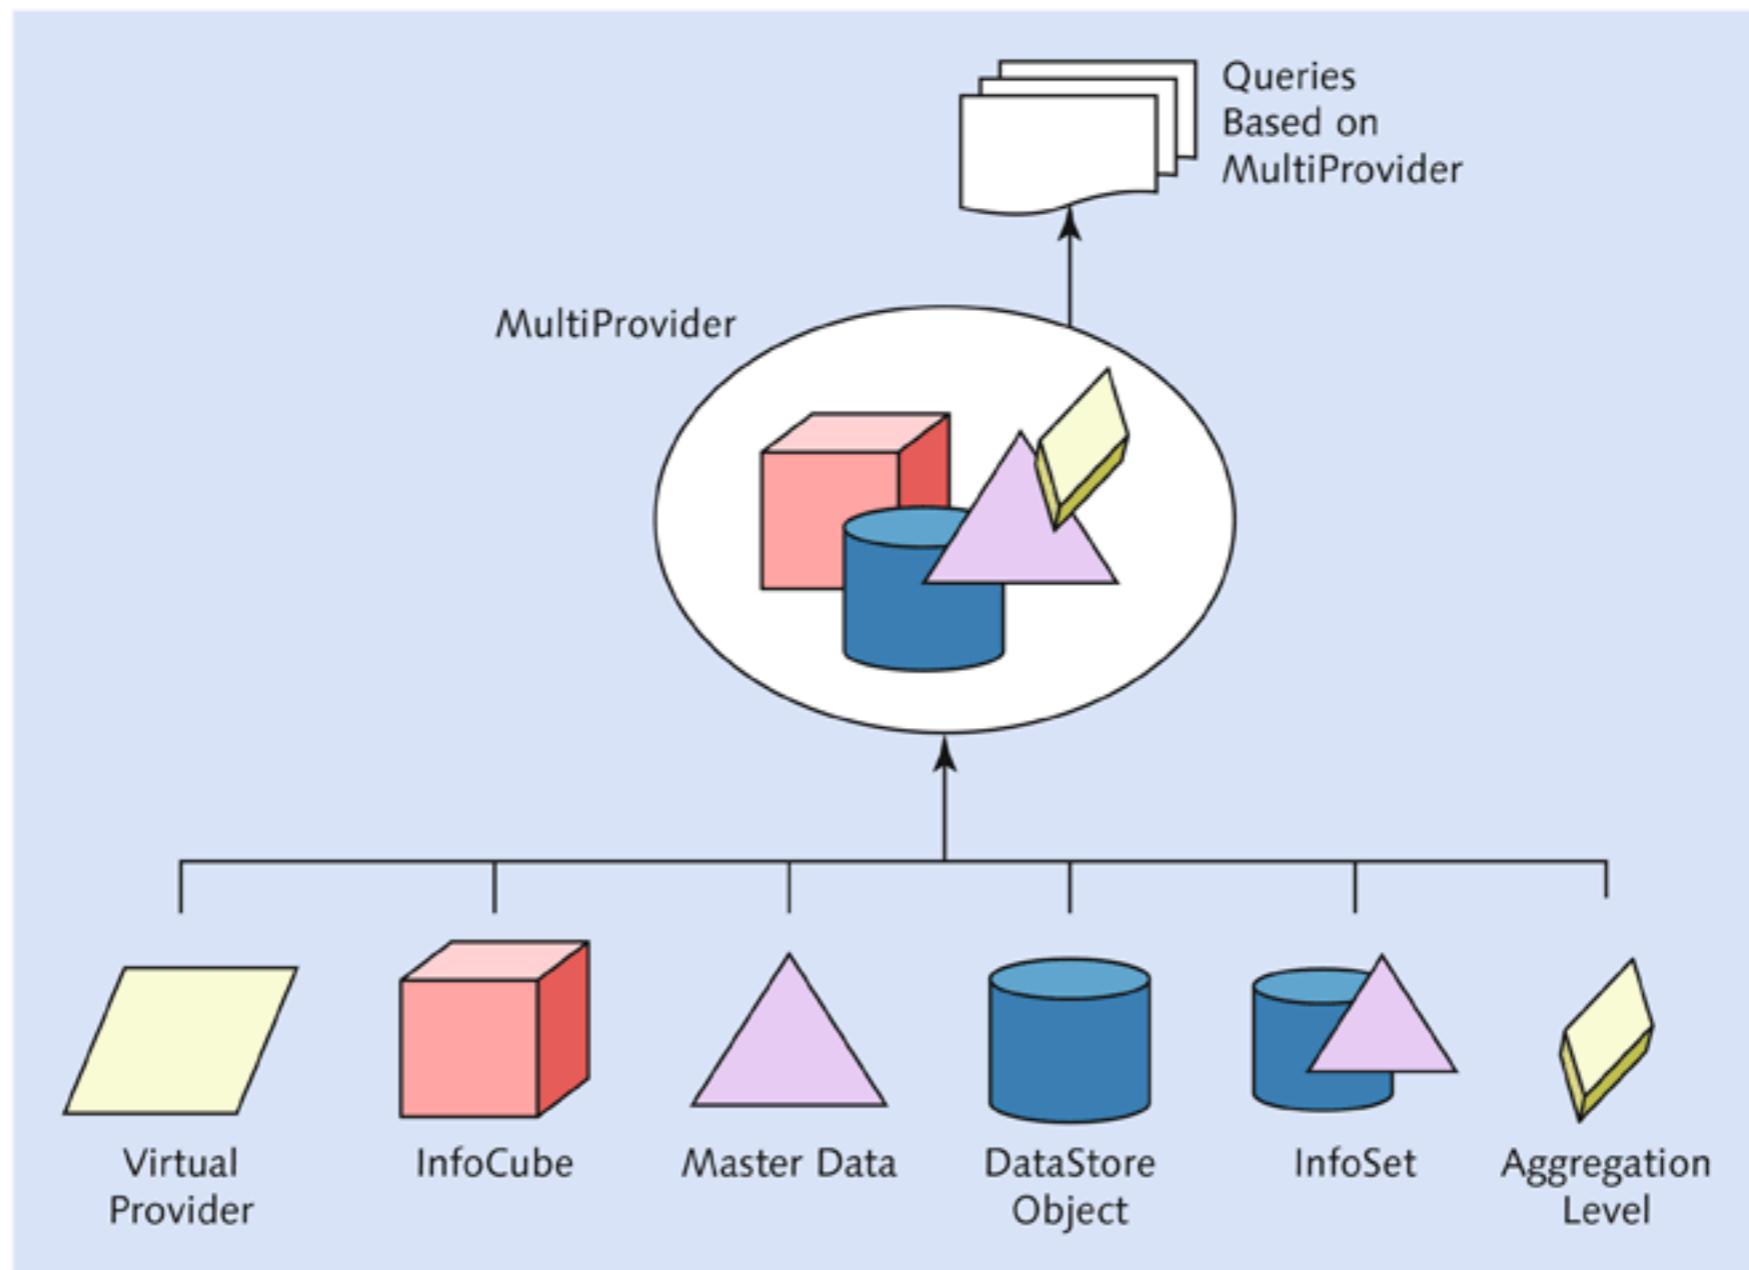
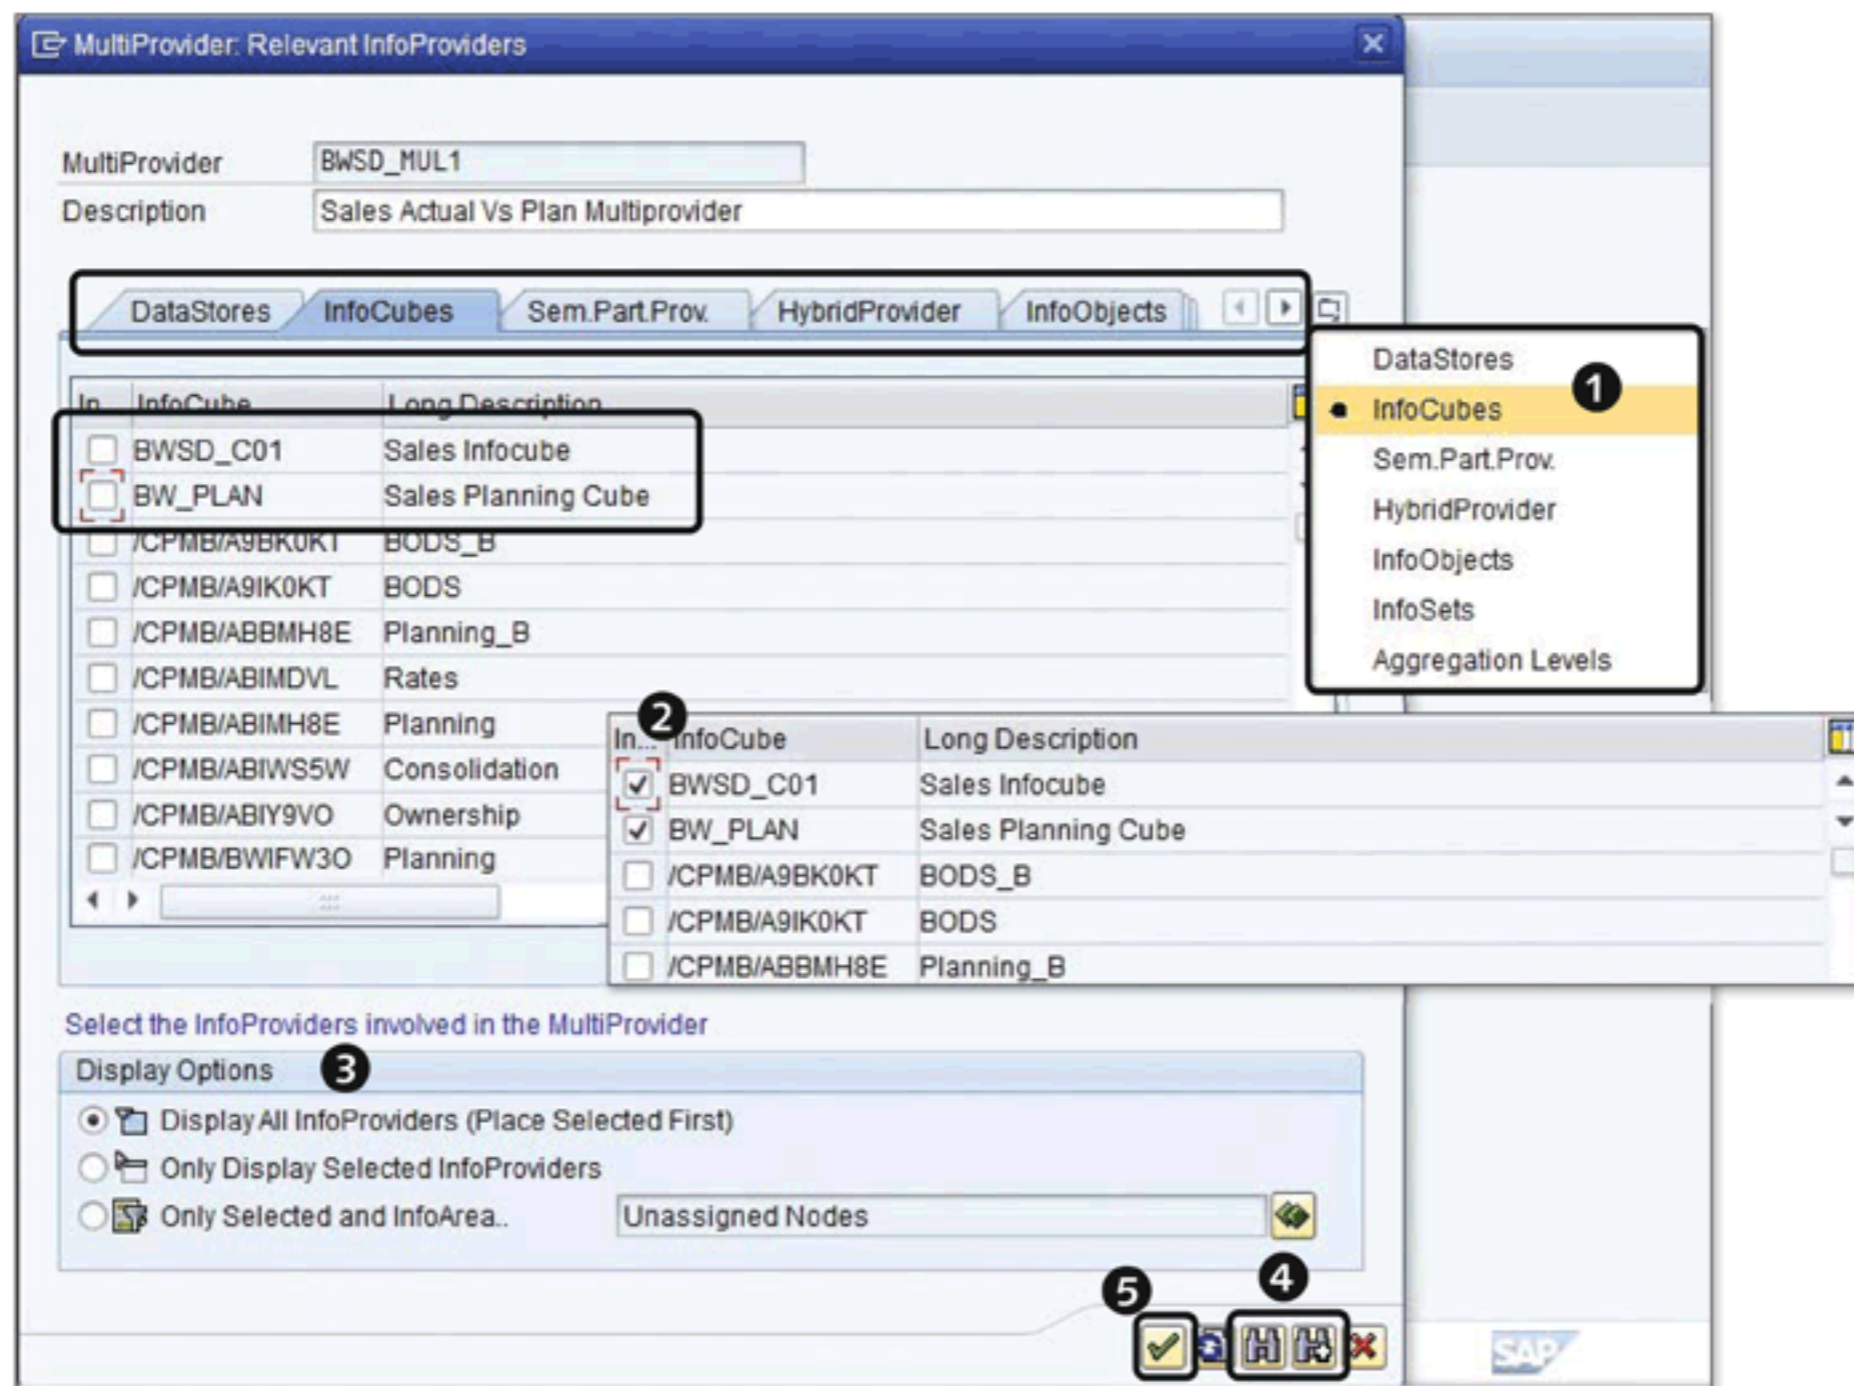

Figure 6.1 MultiProvider: A Logical Definition
Figure 6.5 Creating MultiProvider: Selecting InfoProviders
A MultiProvider exists only as a logical definition, and so doesn't physically store data. The data lies in the underlying data providers, which define the MultiProvider. You can create a MultiProvider based on the following objects, as shown in Figure 6.1.
The next screen is MULTIPROVIDER: RELEVANT INFOPROVIDERS, as shown in Figure 6.5. Since a MultiProvider is based on different data targets and/or InfoProviders (as shown earlier in Figure 6.1), this screen offers you selections based on the data targets and/or InfoProviders you want to include in the definition of the MultiProvider.
There are different tabs available based on various relevant InfoProviders (1 of Figure 6.5). These tabs allow you to select various basic providers for the MultiProvider. For our example, select InfoCubes BWS_D_C01 (SALES INFOCUBE) and BW_PLAN (SALES PLANNING CUBE) (2).
There may be a large number of data targets and/or InfoProviders available in the system, and there are three different display options available to list them, as shown in (3) of Figure 6.5. By default, the system uses the option DISPLAY ALL INFOPROVIDERS. The search feature is also available to find specific InfoProviders (4).